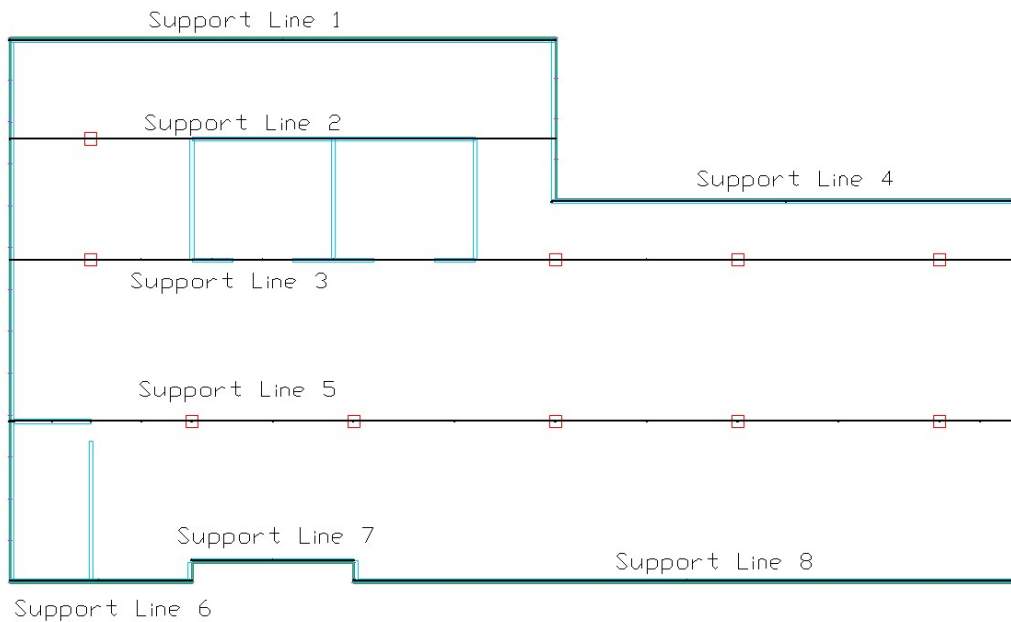

Figure 4.1-2 - Support Lines in X-direction
- Repeat the operation to create other support lines in the X-direction. After closing the support line modeling using the C key on your keyboard you may start modeling your next support line. Once you have finished modeling the support lines you can press **ESC** on your keyboard to exit out of the support line modeling tool. Once you have finished entering support lines in the example model your model should look as shown in **Figure 4.1-2**